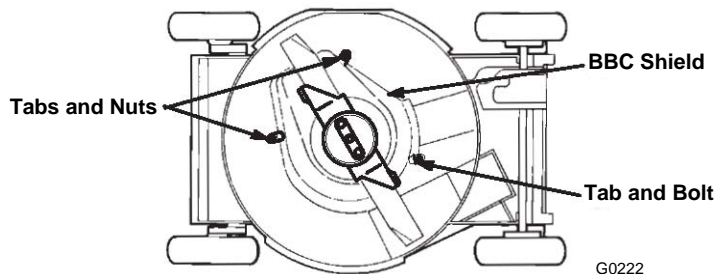

Figure 24
5. Remove the blade nuts, the anti-scalp cup, the accelerator, and the blade (Fig. 24).
6. Loosen the tabs that secure the BBC shield to the deck by loosening the nuts or the bolts on the tabs (Fig. 24). Rotate the tabs 180° to move them out of the way.